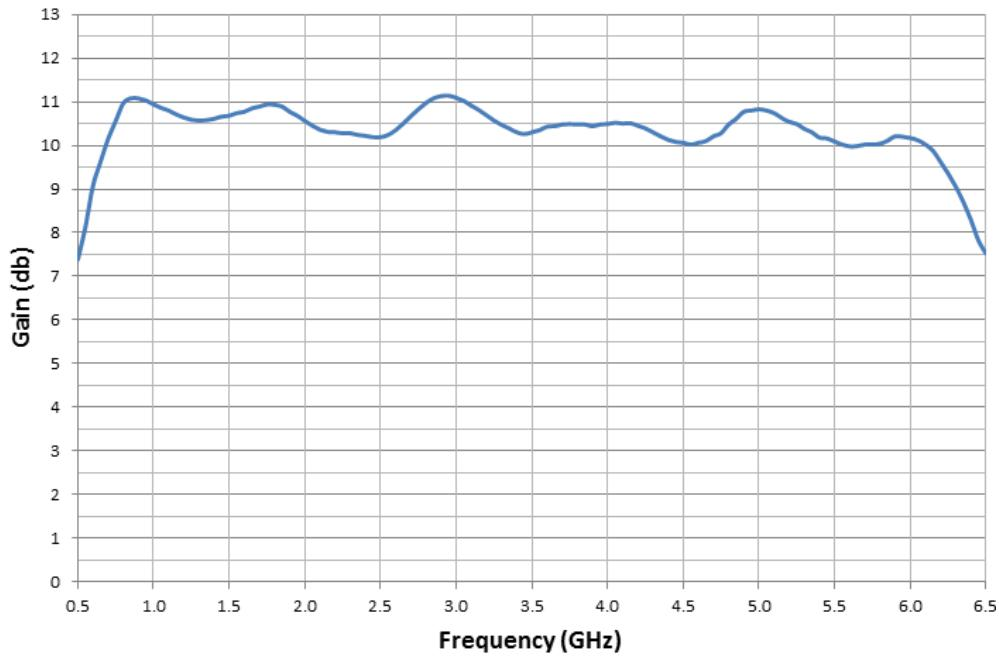

Figure 4-2. Typical Gain Response from the A3 Quad Amplifier Input to the Main RF Output
2. With the W3 cable disconnected from the input of A3, check the response from the input of A3 to the Main RF output of the amplifier. Typical A3 Quad Amp Response is shown in Figure 4-2.